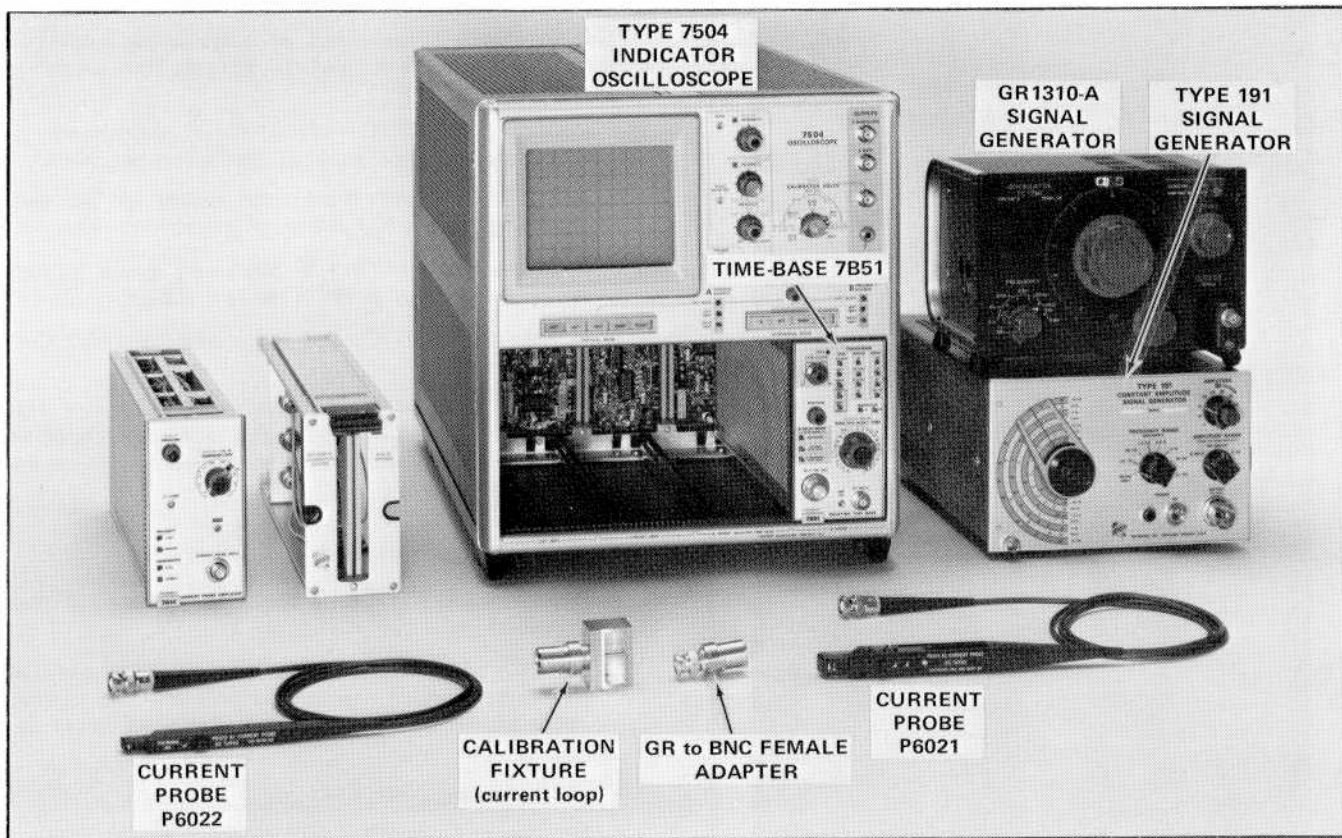

Fig. 5-7. Test equipment required for STEPS 12 and 13.
- a. Test equipment is shown in Fig. 5-7.